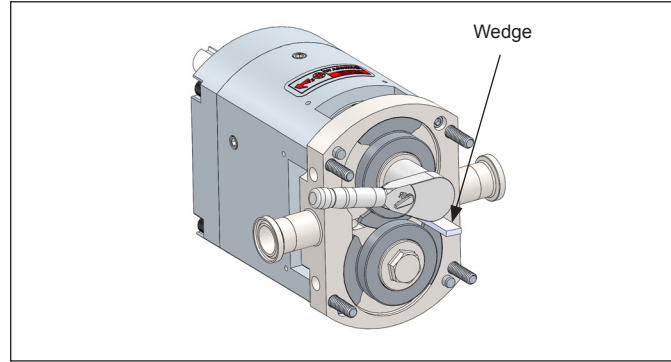

Figure 49. Installing and Securing the Rotor
2. Insert rotor key in the keyway on the shaft. Install a new rotor hub o-ring on the rotor hub and align the rotor keyway to the key in the shaft (*Figure 49 A*). Slide the rotor on until it seats against the shaft. Install the Bellville washer in the rotor nut and hold it in place using the small retaining o-ring (*Figure 49, B*). Place one nut on at a time, tightening them down using the appropriate wrench and a non-metallic wedge to hold the rotor in place (*Figure 49, C*). See *Table 7* for required torque values. Repeat with the second rotor.